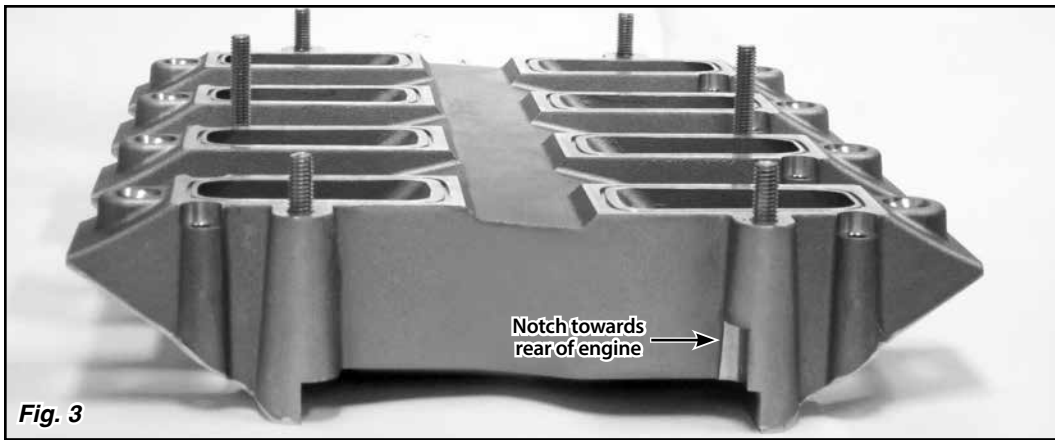

Fig. 3
Install the lower manifold without the O-rings, with the notch in **Fig. 3** to the rear of the engine. Make sure the lifter valley plate does not interfere and prevent the lower manifold from sitting flat against the cylinder heads (or Intake Adapters, if applicable).
Step 2: Place the lower manifold on the cylinder head (or Intake Adapter) mounting surfaces, with the notch in **Fig. 3** to the rear of the engine. Take extra care to make sure all of the O-rings remain installed in the grooves.